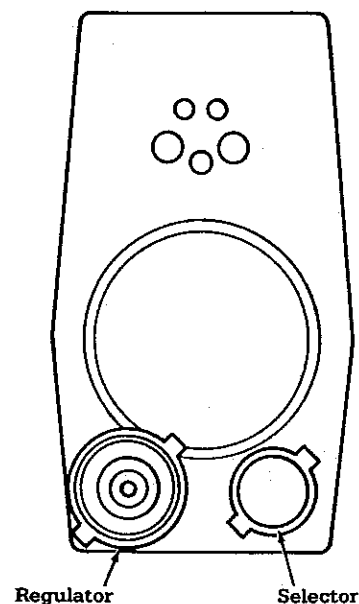

Figure 11
8. Position the controls and regulator to the configuration shown in Figure 11 and fit the gauge lens into the unit. Lubricate the regulator O-rings with Mold Release spray.